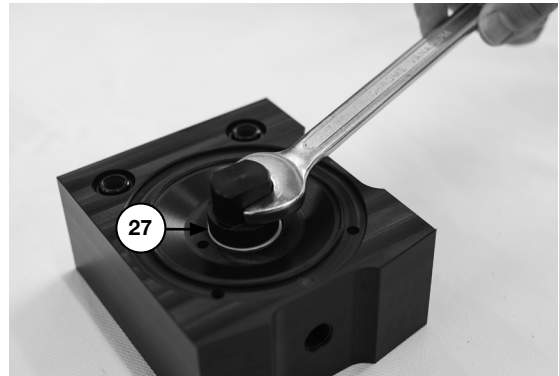

Figure 11
Unscrew both end caps of the air valve (27) by using the special tool (see Figure 11).
Remove the end caps, the main-valve and the air valve shaft out of the the air-valve (27). Screw one end cap flush into the centre housing (01) by using the special tool (see Figure 11). Put 1 off the six air-valves housing o-rings part of (27) into the end cap.
Put the last air-valve housing o-ring on top of it and screw the second end cap flush with the centre housing using the special tool (see Figure 11).